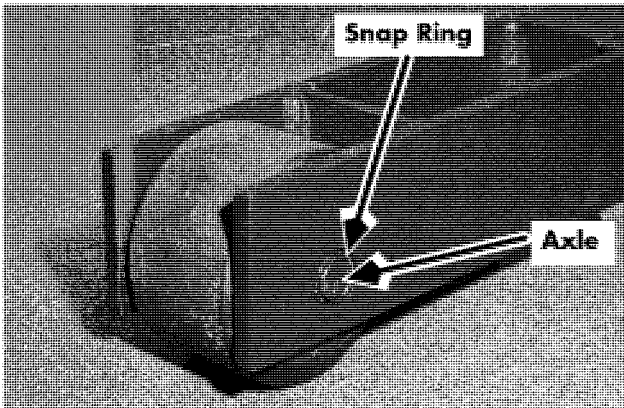

Figure 7-146. load Wheel
4. Remove snap ring from axle. See Figure 7-146.
5. Drive out axle. The load wheel will fall out of baseleg. See Figure 7-146.